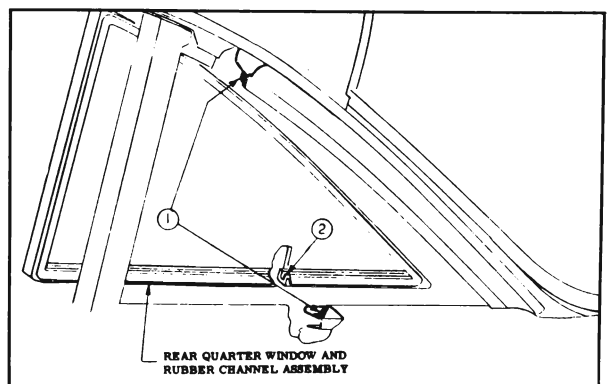

Figure 3-6—Rear Quarter Window—
4. To install, reverse removal procedure. Prior to installing quarter window glass and rubber channel, clean off old sealer from rubber channel and body opening to insure a smooth sealing surface. Apply a ribbon of medium-bodied sealer in corner of rear quarter side outer panel rabbet, as indicated at "1" in Figure 3-6, completely around window opening. After glass and rubber channel have been installed, apply a bead of weatherstrip cement between outer surface of the glass and rubber
channel, as indicated at "2" in Figure 3-6, completely around the window and rubber channel. Clean off all excess sealer and cement.